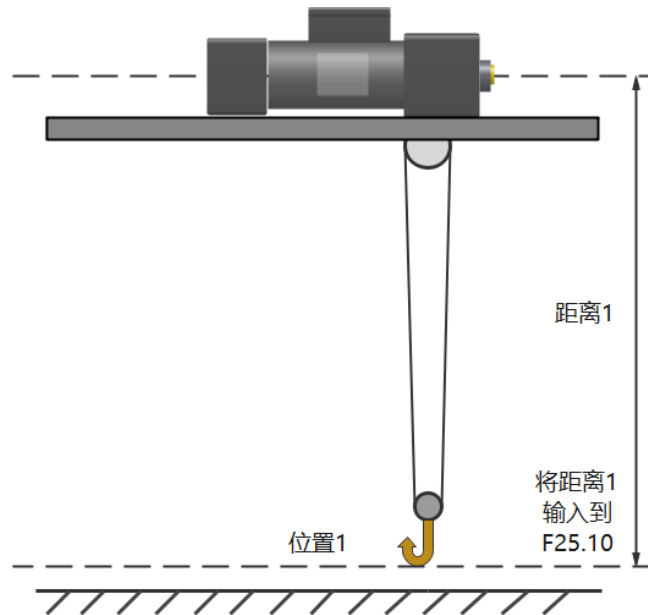

Figure 1
- A) Control the hook to descend so that the hook is in a lower position 1 (Look at the scene situation, generally for easy measurement, take off the ground 1 meters left and right position), as shown in Figure 1;